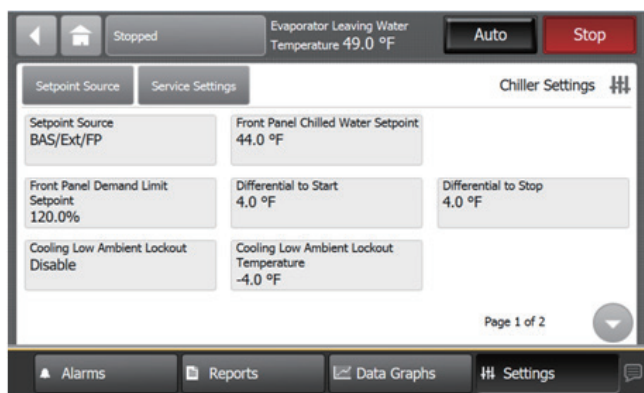

Figure 40. Equipment setting screen (Chiller setting shown)
Note: A page number appears in the lower right corner of the screen. If a screen contains more than one page, up/down arrows also appear for viewing the other pages, as in Figure 40.
- a. For screens with button selections (Figure 40), touch the button that represents the setting you want. The button becomes shaded, and a Save button appears at the bottom of the screen.